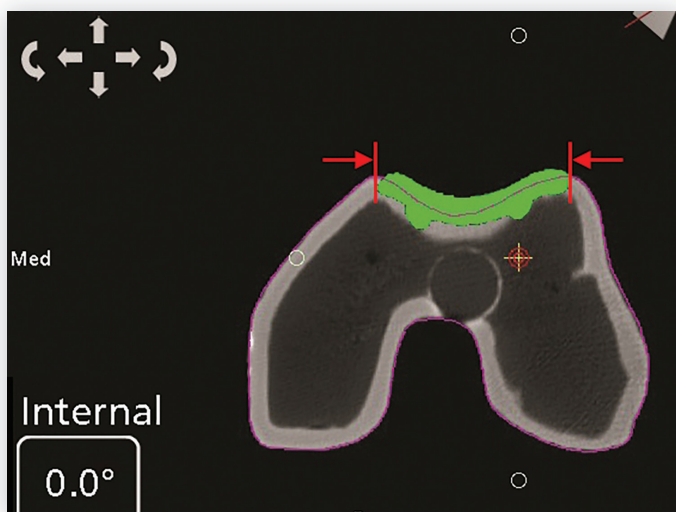

Figure 1
In the quadrant of the computer screen showing the transverse view, select the largest patellofemoral (PF) component that does not overhang the bone in the medial and lateral direction. It should be no more than 2mm inset on either side (figure 1). Although the positioning